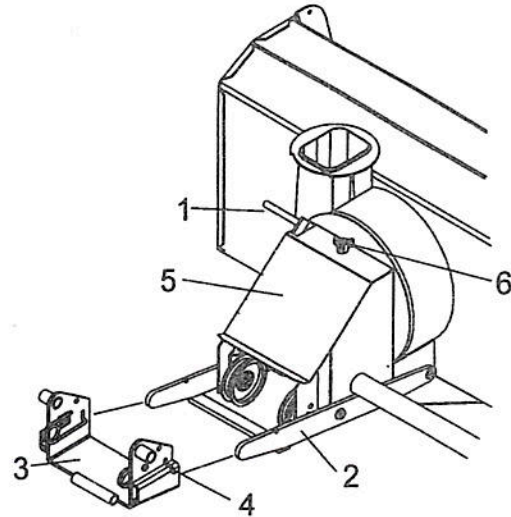

Figure 11
- a) Attach the snowblower to the tractor subframe by placing the male hitch flat bar (fig. 11, item 2) into subframe's female pivot support hitch (item 3). Be sure the male hitch is entered to its maximum and locked in place by the springs.
- b) remove the belt guard (fig. 11, item 5).
- d) Install the belt guard (fig. 11, item 5) and secure with a knob.